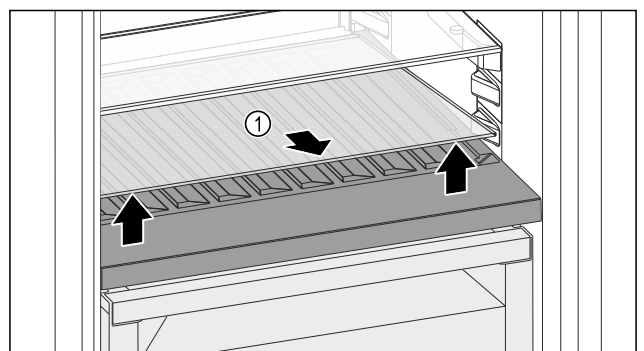

Fig. 108
- Lift the glass shelf Fig. 108 (1) at the front and remove.
- Store the glass shelf Fig. 108 (1) in a safe place outside the appliance.